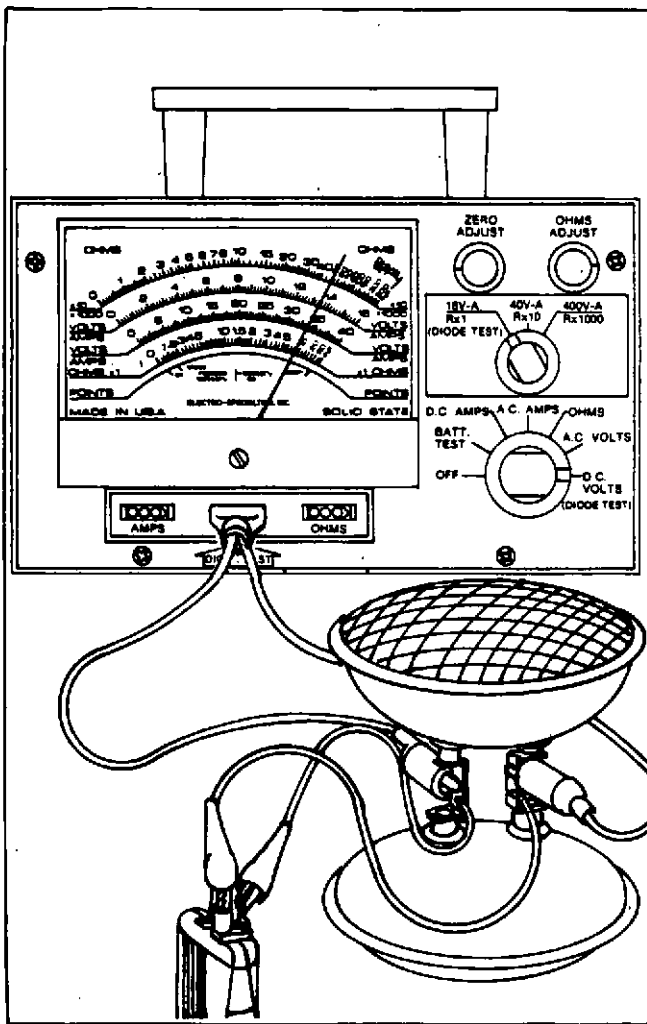

Fig. 51 — Battery Charger Tester
- Battery discharged. See Fig. 51.
Solder the two headlights together with wires, and connect the voltmeter as shown in the accompanying illustration. Fig. 51.